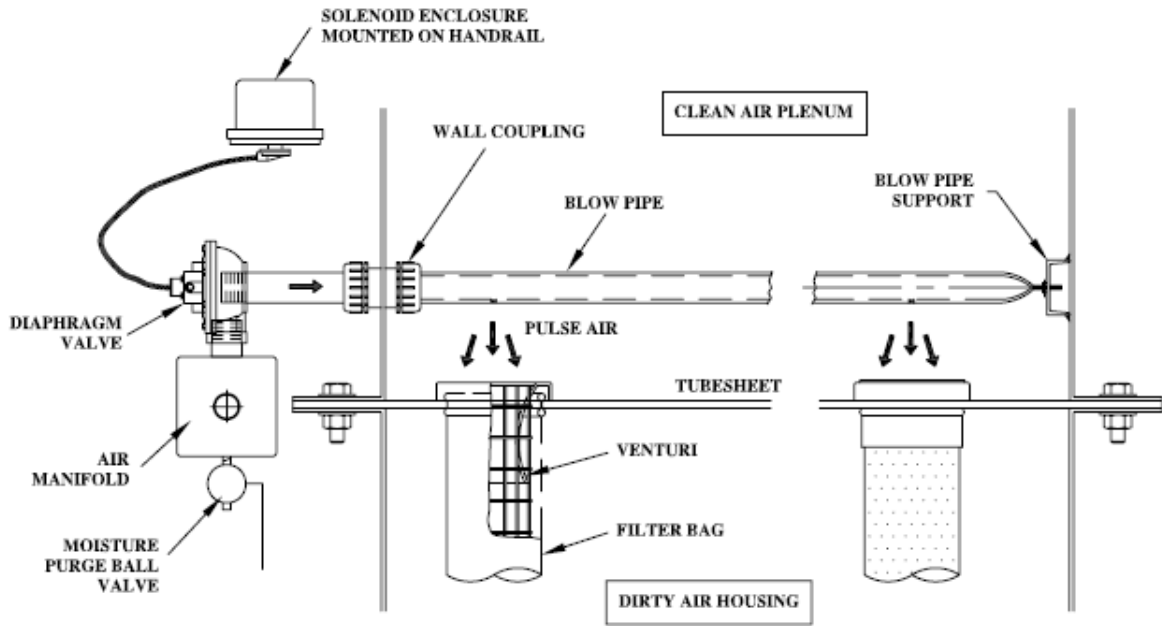

Figure 2 Operating Principle
- 5.** After a complete row of bags and cages have been installed, mount the blowpipe onto its supports (Figure 2). Fasten the blowpipe to the support angle at the far end of the collector, making sure the pulse pipe holes are directed downward. Attach and tighten the coupling on the opposite end of the blowpipe to complete the installation. Insert the blowpipe into the wall coupling far enough to clear the slotted support at the other end. Push into slot and then tighten wall coupling – hand tighten only (do not use a pipe wrench).